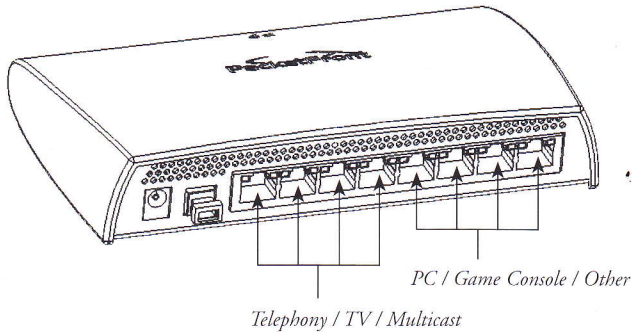

Figure 4. Ports on the CPS
2. Locate the port (see Figure 4).